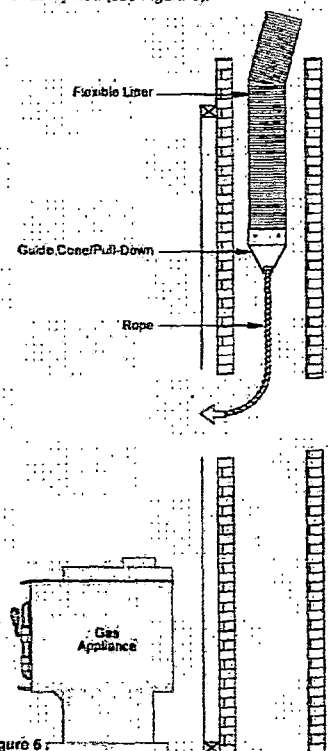

Figure 6
Gather all necessary component parts and locate them near the termination of the chimney. This should consist of a Support/Flashing assembly, a Round Top, and the prepared length of Flexible Liner complete with Guide Cone and rope. Feed the Guide Cone and rope down the chimney flue (see Figure 6). While an assistant gently pulls on the rope from below, start lowering the Flexible Liner down into the chimney flue. If additional lengths of flex are required, join the sections together as the Flexible Liner progresses down the chimney.
**Note:** Due to possible snagging, which may result in some surface damage, caution must be observed when lowering Liner lengths into the masonry flue. After feeding the liner down the chimney to the bottom, form a 90-degree bend and bring the Flexible Liner through the prepared opening of the chimney wall (see Figure 6).